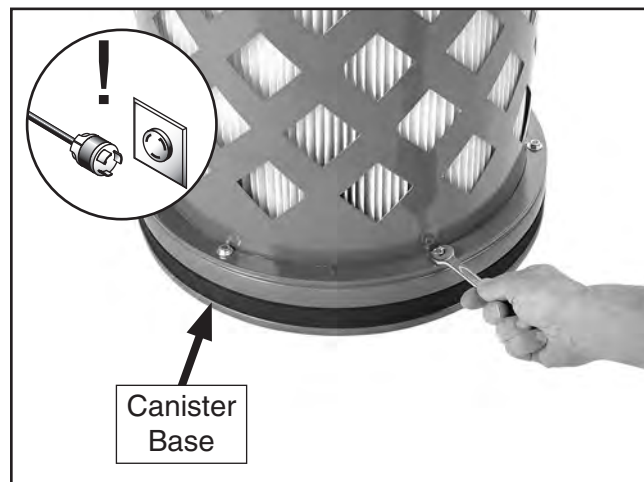

Figure 60. Removing the hex nuts and flat washers from the rim of the canister base.
5. Remove the six hex bolts, hex nuts, and flat washers from the rim of the canister base, as shown in **Figure 60**.